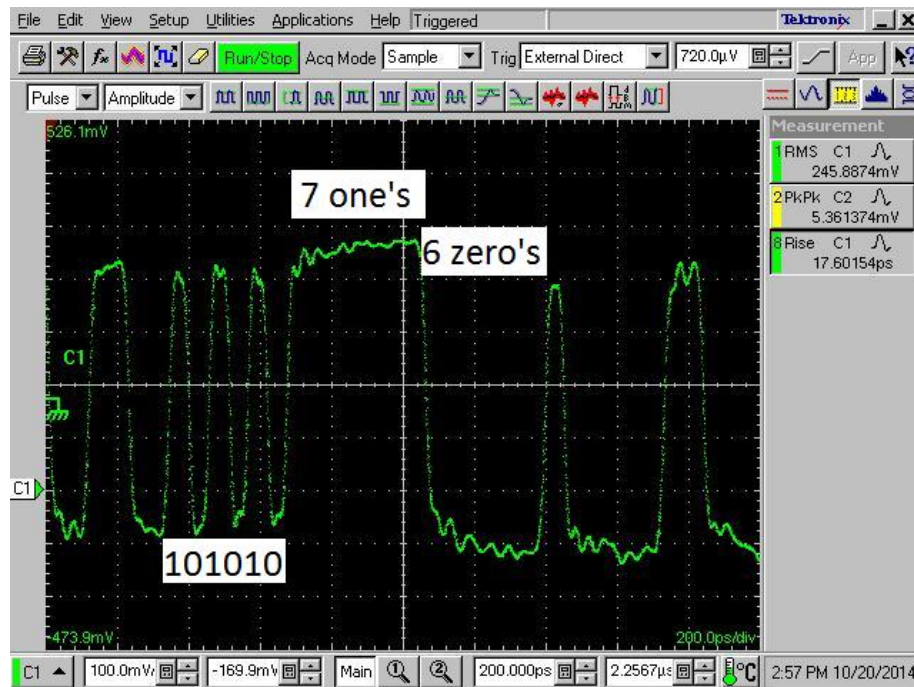

Fig. 6. Correct PRBS7 pattern
- Adjust Phase Adjust 1 and Phase Adjust 2 until the correct PRBS7 pattern is displayed as shown in **Figure 6**.